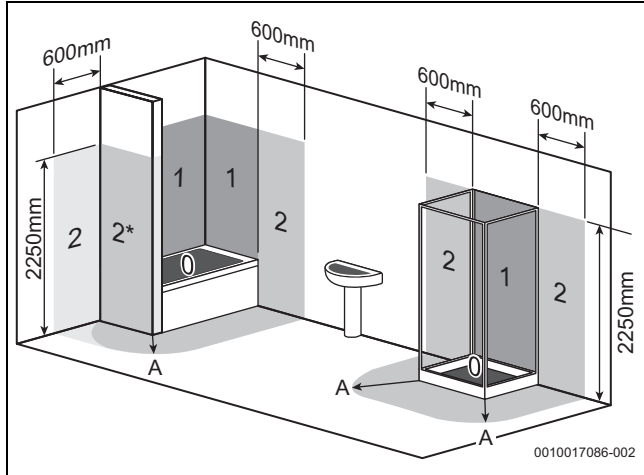

Fig. 12 Bathroom installations
- Figure 12 is for guidance only.